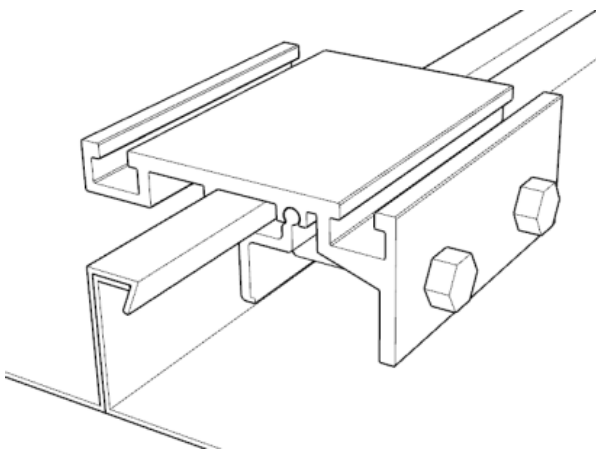
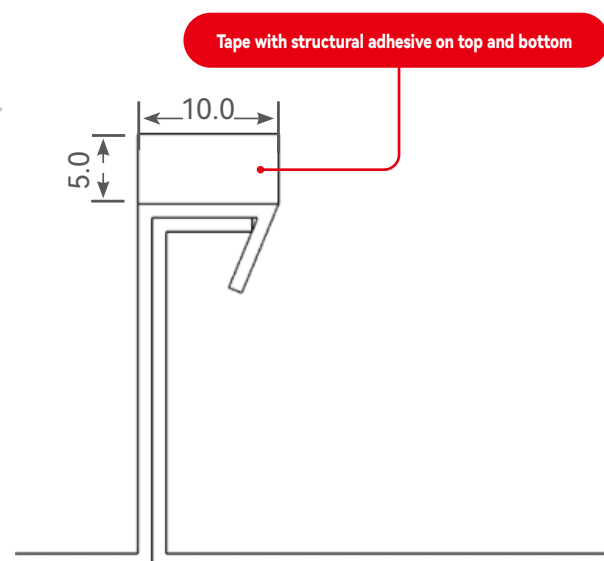

FIGURE 31
FIGURE 32
② Install the clamp on the square rib according to the position of the snapline, and use the external hexagonal bolt to lock the clamp for installation (Figure 31), the overall installation result is as follows (Figure 32)